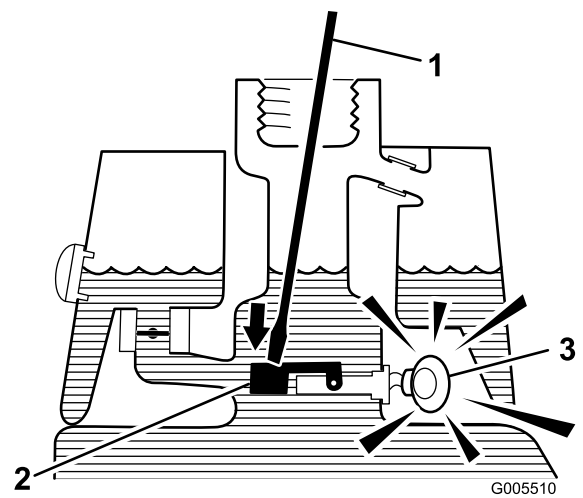

Figure 53
3. Insert a clean rod or screwdriver into the tank neck and gently push down on the switch float (Figure 53); the alarm should sound after the 1-second delay.